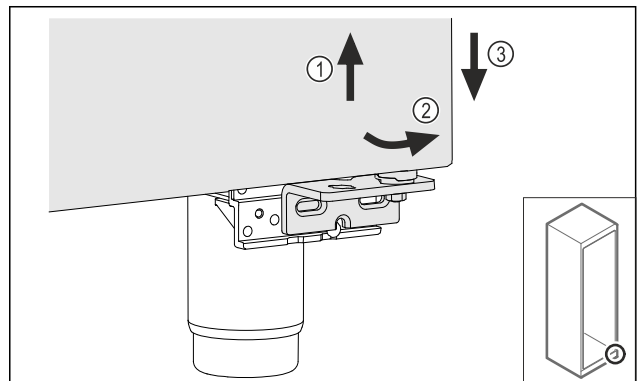

Fig. 24
- Lift the door slightly Fig. 24 (1), tip it forward Fig. 24 (2) and lower it Fig. 24 (3).